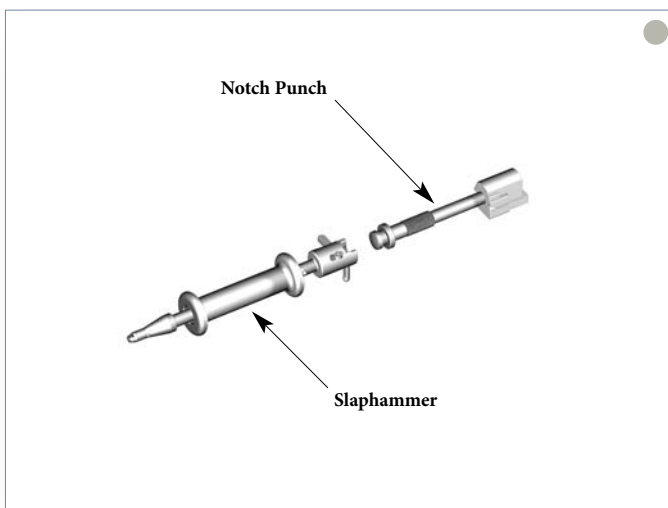

Figure 32
- ▶ Remove the Compactor from the tracks with a Slaphammer if necessary (Figure 32).